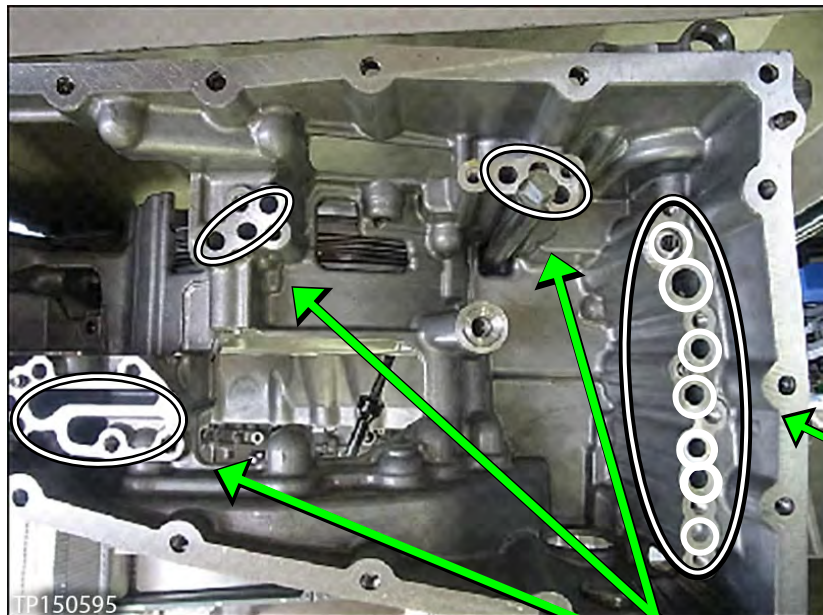
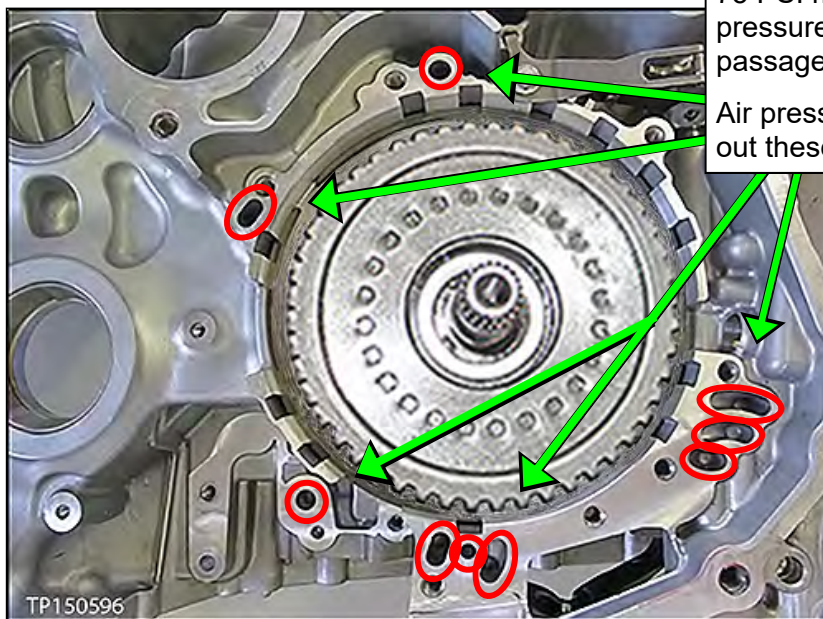

Figure 59
Figure 60
38. Use brake cleaner in all oil passages of the CVT case where shown in Figure 59 and Figure 60.